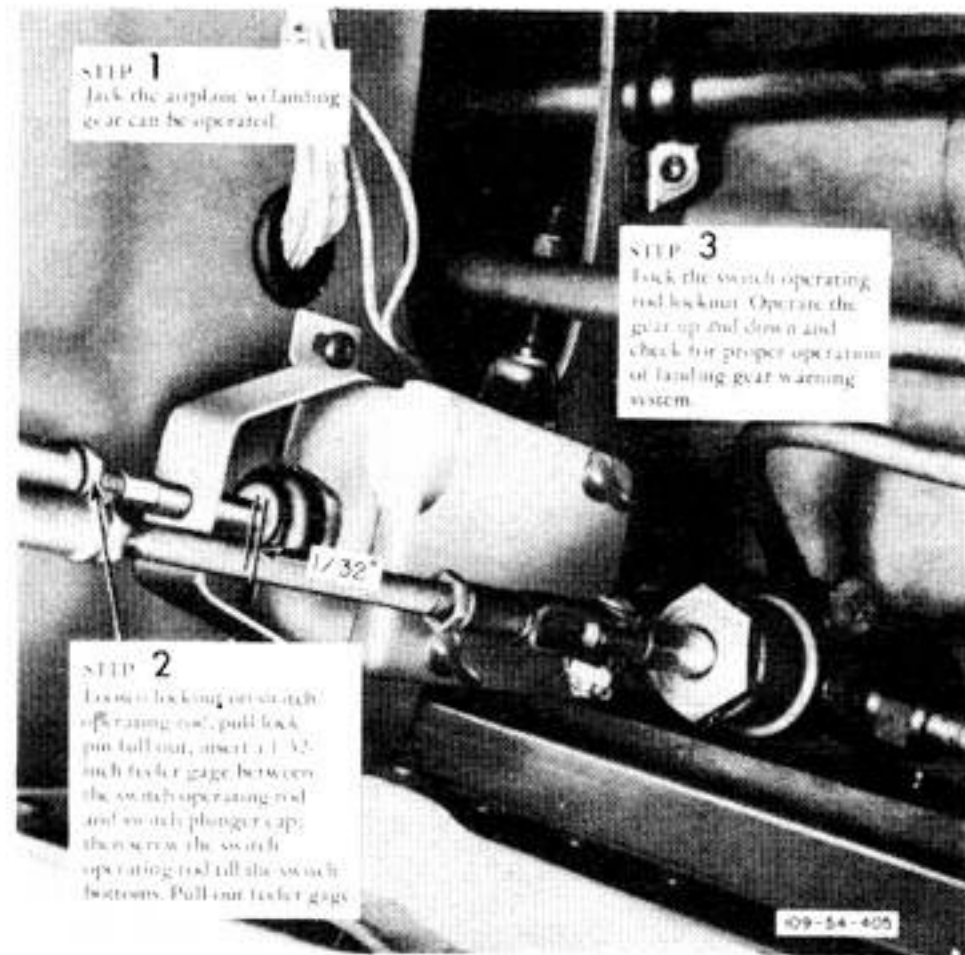
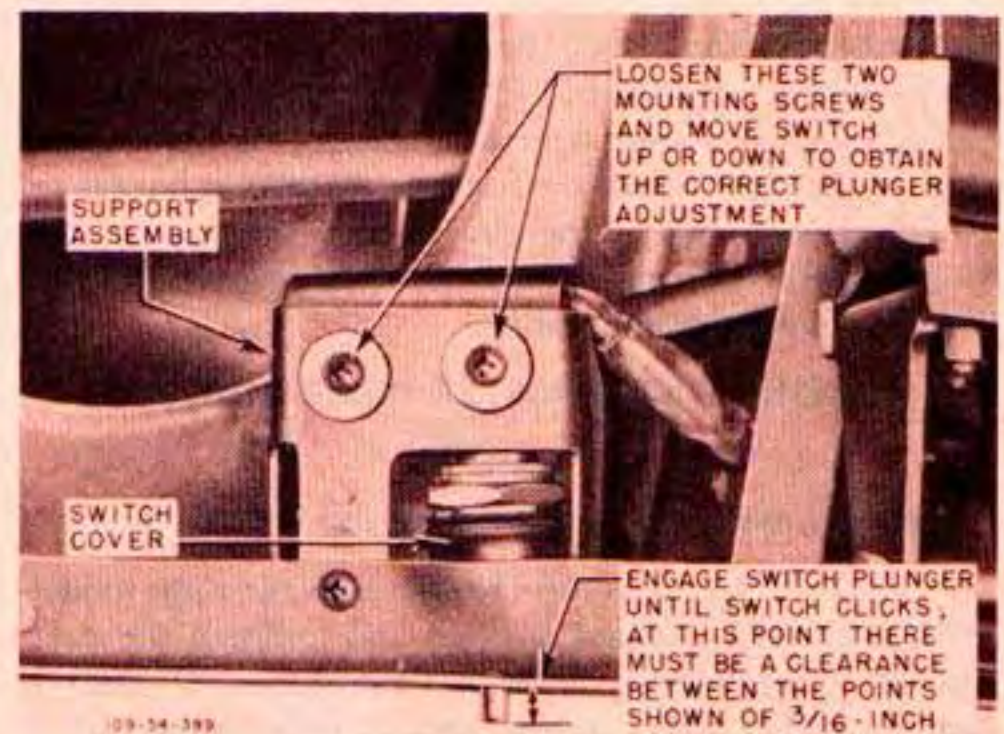

Figure 353—Adjusting Main Gear Down-lock Position Switch
Figure 354—Adjusting Main Gear Fairing Door Switches—Late Airplanes
(5) ADJUSTING MAIN GEAR DOWN-LOCKPIN SWITCH. (See figure 353.)
(6) ADJUSTING MAIN GEAR FAIRING DOOR MICROSWITCH (P-51D-5A-10-NA and P-51D-5A-10-NT).
(7) ADJUSTING MAIN GEAR FAIRING DOOR SWITCHES (P-51D-15-NA).
- (b) Engage the switch plunger until the switch clicks. At this point there must be a clearance of $\frac{3}{16}$ inch between the end of the switch plunger and the *inside groove* in the skin. (See figure 354.)
(8) ADJUSTING MAIN GEAR FAIRING DOOR SWITCHES (P-51D-20-NA and P-51D-15-NT).